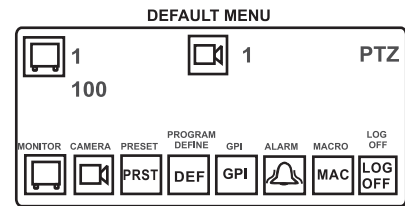

Figure 3-20
- After logging onto the system from the keyboard, press the  key to proceed to the DEFAULT MENU (see Figure 3-20).
- Enter the logical number of the alarm you want to ARM in the keypad and press the blue button below the ALARM icon as indicated in Figure 3-20.